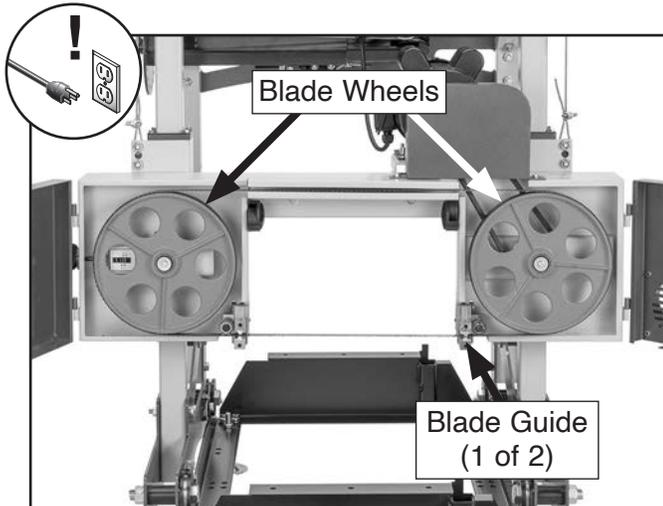

Figure 64. Blade installed in guides and around wheels.
3. Slide blade into blade guides, then slide blade over each wheel (see **Figure 64**).